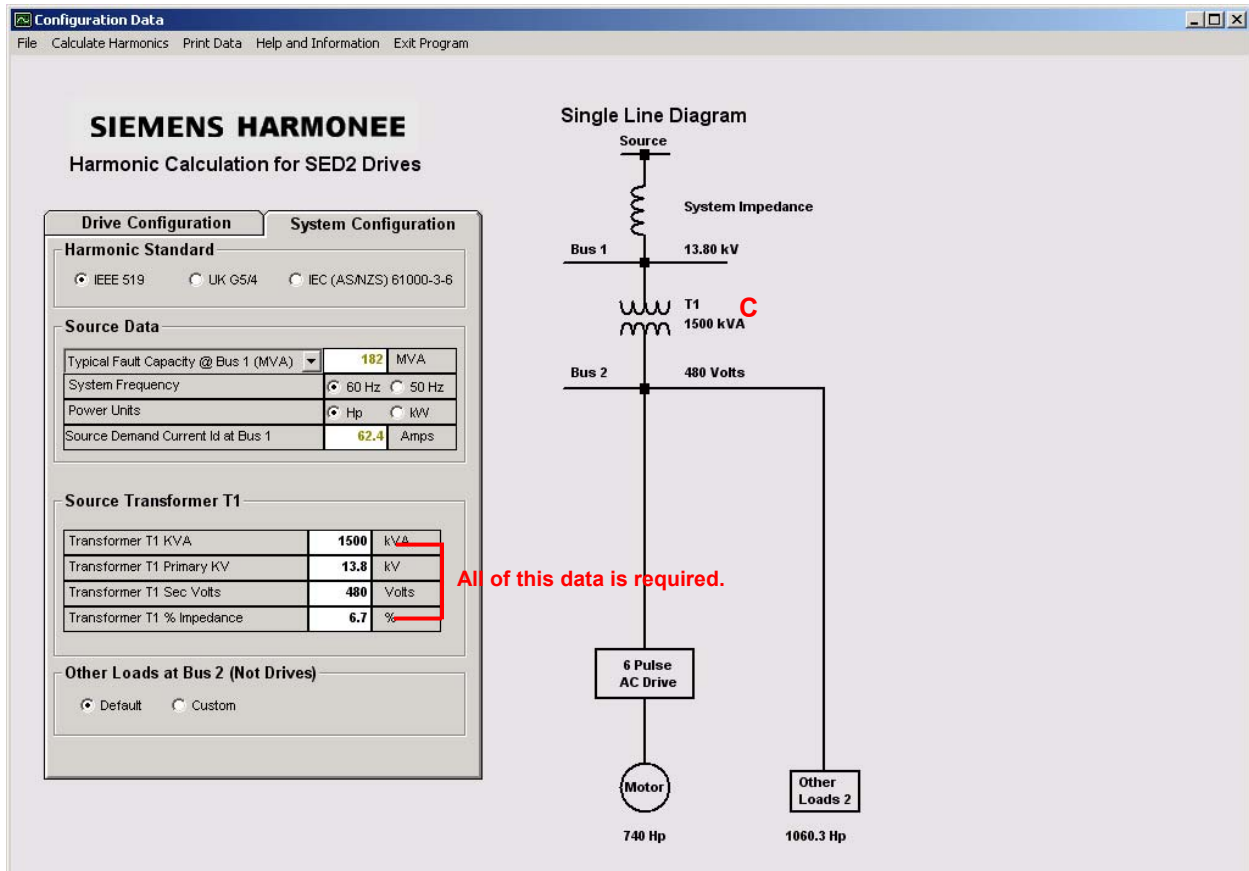

Figure 5 -- System Configuration Tab
8. Now you are ready to input electrical system data. The software defaults to the **System Configuration** tab for important electrical system information. The System Configuration tab has 4 main sections: **Harmonics Standard**, **Source Data**, **Source Transformer T1** and **Other Loads at Bus 2 (Not Drives)**. All of these sections except for Source Transformer T1 offer default settings that you will usually work from. (See Figure 5)